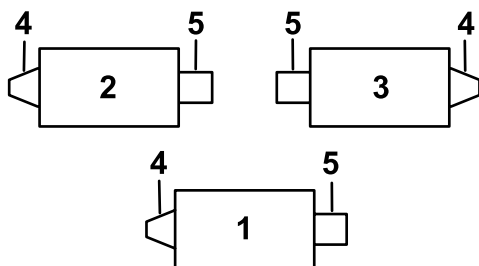

Figure 4
Install the grease fitting on the reel motor side of the verticutter. Use the following diagram to determine the position of each reel motor (Figure 4).
3. For the verticutter 3 location (Figure 4), move the end weight to the opposite side of the cutting unit.